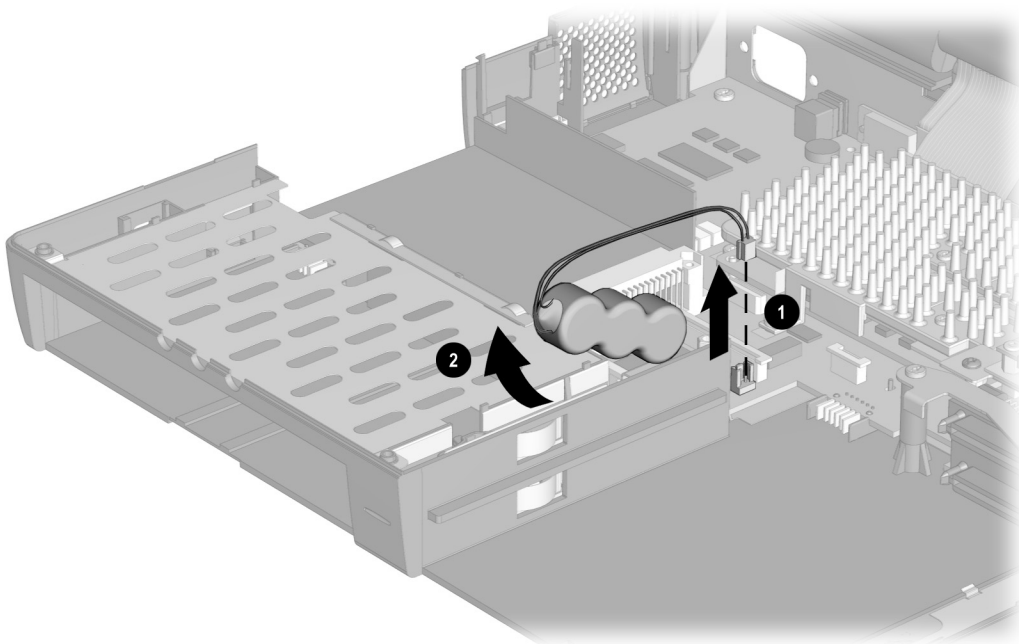

Figure 5-41. Removing the Auxiliary Battery
7. Disconnect the auxiliary battery cable ❶ from the system board (Figure 5-41).
8. Lift the front edge of the battery and swing it out of the base assembly ❷.